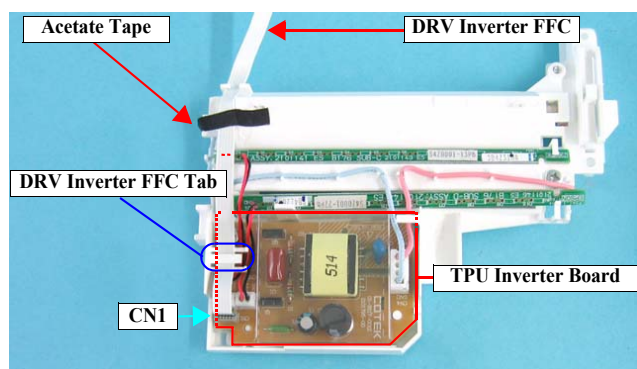

Figure 4-38. Removing the DRV Inverter FFC
- When connecting the DRV Inverter FFC to the TPU Inverter Board, put the FFC through the tab (DRV Inverter FFC Tab) as shown in Figure 4-38.
- Secure the DRV Inverter FFC with a piece of acetate tape at the position shown in Figure 4-38.